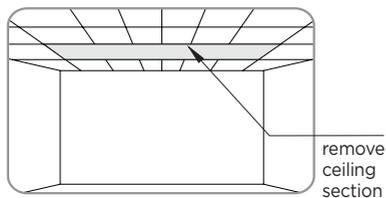
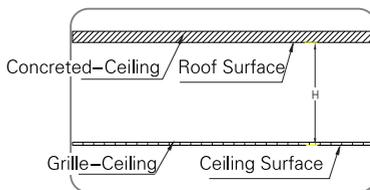

figure 1
figure 2
1. Choose a position according to the required space, then remove the required section of ceiling (figure 1). Please measure the distance  $H$  between roof and ceiling surface correctly (figure 2)